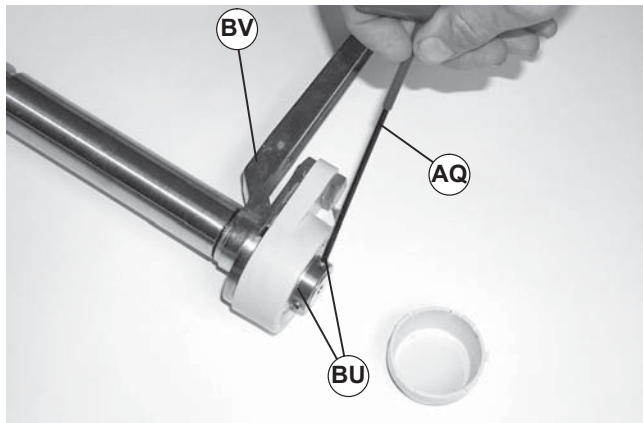

Figure 43
7. Using a 3mm hex key wrench (Figure 43, item AQ), loosen two set screws (BU) on bearing and head plate assembly (BV).
8. Using a 3mm hex key wrench (Figure 43, item AQ), tighten two set screws (BU) on each bearing and head plate assembly (BV).